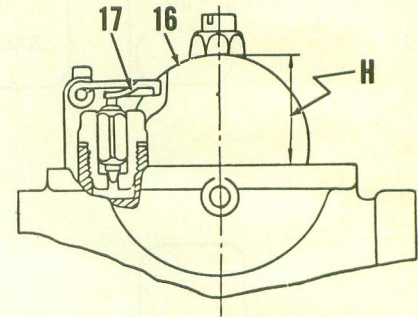
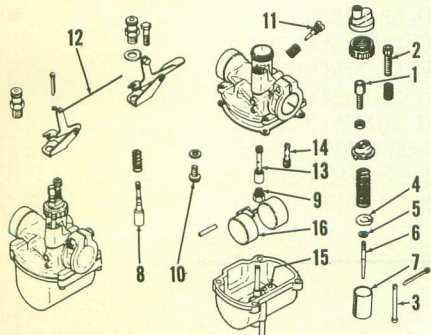

Fig. Y5-2—Float level (H) is adjusted by bending tang (17).
Fig. Y5-1—Exploded view of Mikuni VM carburetor. Starting valves for both carburetors are connected with rod (12).
**CARBURETORS.** Two Mikuni VM carburetors are used. Idle speed should be set at approximately 1,200 rpm by turning adjusters (2—Fig. Y5-1). Make sure that throttle slides (7) both stop at exactly the same position and exhaust pressure is the same for both cylinders. Idle mixture is changed by turning needles (11). Initial setting is 1½ turns open. Turning the needle counter-clockwise leans the mixture. Carburetors must be synchronized to open ex-
Float level (H—Fig. Y5-2) should be 25.5MM (1 in.) and is adjusted by bending tang (17) on float. Refer to Fig. Y5-1 and the following standard specifications:
Before adjusting the pump control cable, it is important that the throttle cable guides (1—Fig. Y5-1) are correctly set. To adjust the throttle cable guides, turn the idle speed adjusters (2) all the way down, then synchronize cable guides (1) so that both throttle slides (7) begin to move at exactly the same time when the hand grip is turned. The throttle cables should have approximately 1/16-inch free play after they are synchronized. Adjust the idle speed to 1,100-1,300 rpm by turning both idle adjusters (2). Make certain that both throttle slides stop at exactly the same time. Turn the throttle hand grip just enough to take up free play from the throttle cables (without changing idle speed) and check the oil pump setting mark and guide pin as